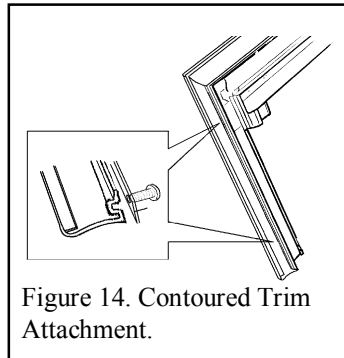

Figure 14. Contoured Trim Attachment.
2. Attach the trims to the front frame with 4 thread cutting screws provided. See figure 14.